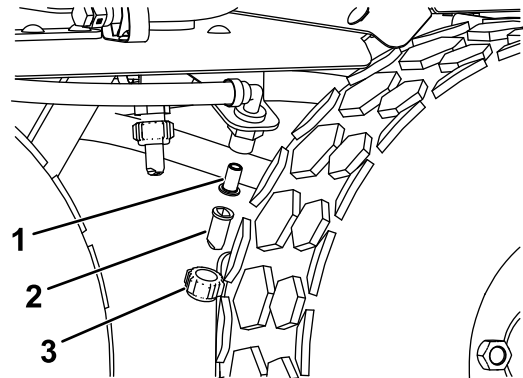

Figure 56
1. Clean the area around the spray nozzle (Figure 56).